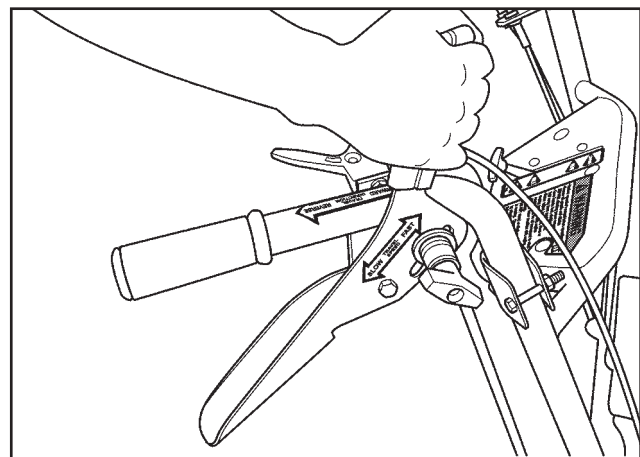

FIGURE 19 Reverse Direction
1. SLOWLY apply pressure and PULL BACK on the HYDROSTATIC CONTROL LEVER as shown (See Figure 19).